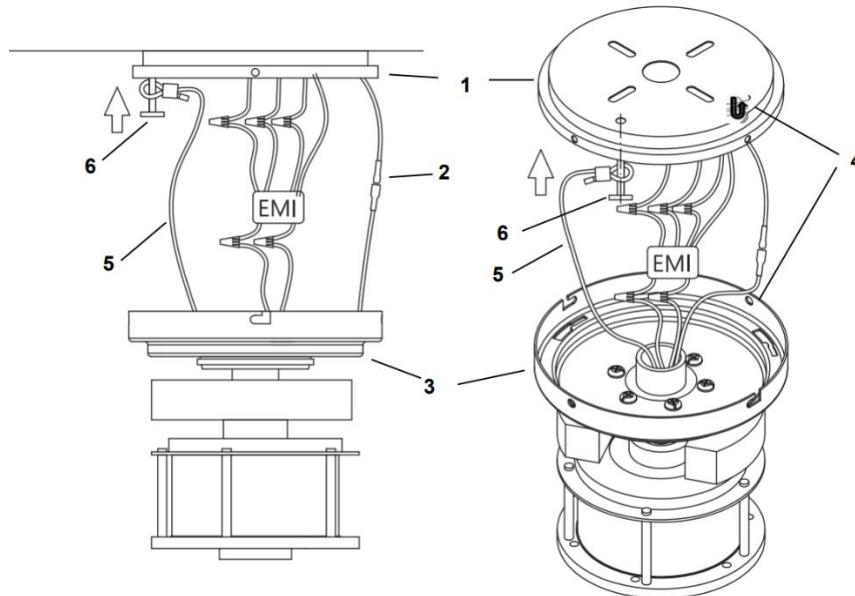

Fig. 6
1. Lift the fan assembly to the mounting bracket (1) and let the J-hook of the mounting bracket (4) go through the hole of the hanging plate and hang up the fan assembly (3). Fig. 6
2. Connect the male and female connector together (2). Fig. 6
3. Pull the safety cable (5) on the screw (6) and tight . lock the screw (6) into the ceiling through the hole of mounting bracket , tight the safety cable .